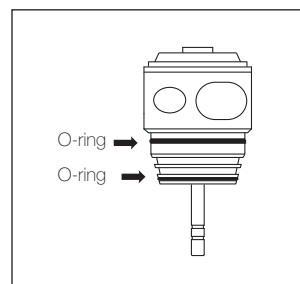

Fig. 7
- Make sure that the two O-rings (Fig. 7) are correctly located on the cartridge.